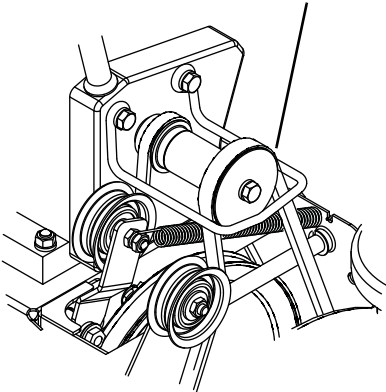

Figure 30
1. With the clutch lever disengaged, brake pad must contact attachment belt. With clutch lever engaged, brake pad must be more than $1/16$ in. (1.6 mm) from belt. If there is more than $1/16$ in. (1.6 mm) gap, go to *Check Belt Finger Clearance (Figure 30)* on page 25. If there is less than $1/16$ in. (1.6 mm) gap, go to Step 2.
Check Belt Finger Clearance (Figure 30)